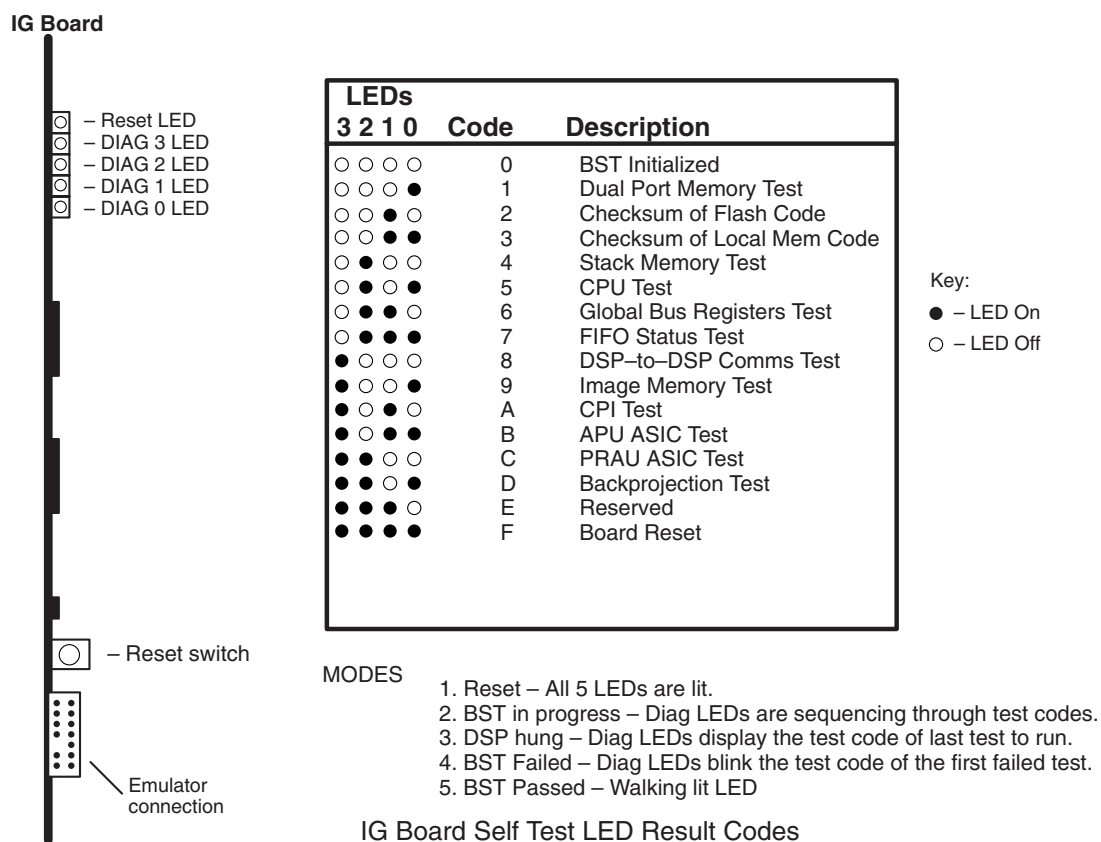

Figure 8-109 IG Board Self Test LED Result Codes
See Figure 8-109 for additional information.
- 0xF (15) indicates the test completed successfully. The “walking” bit pattern is not used.
- 2 through 13 indicates a test has failed or a DSP other than 0 has hung. See Figure 8-109 for